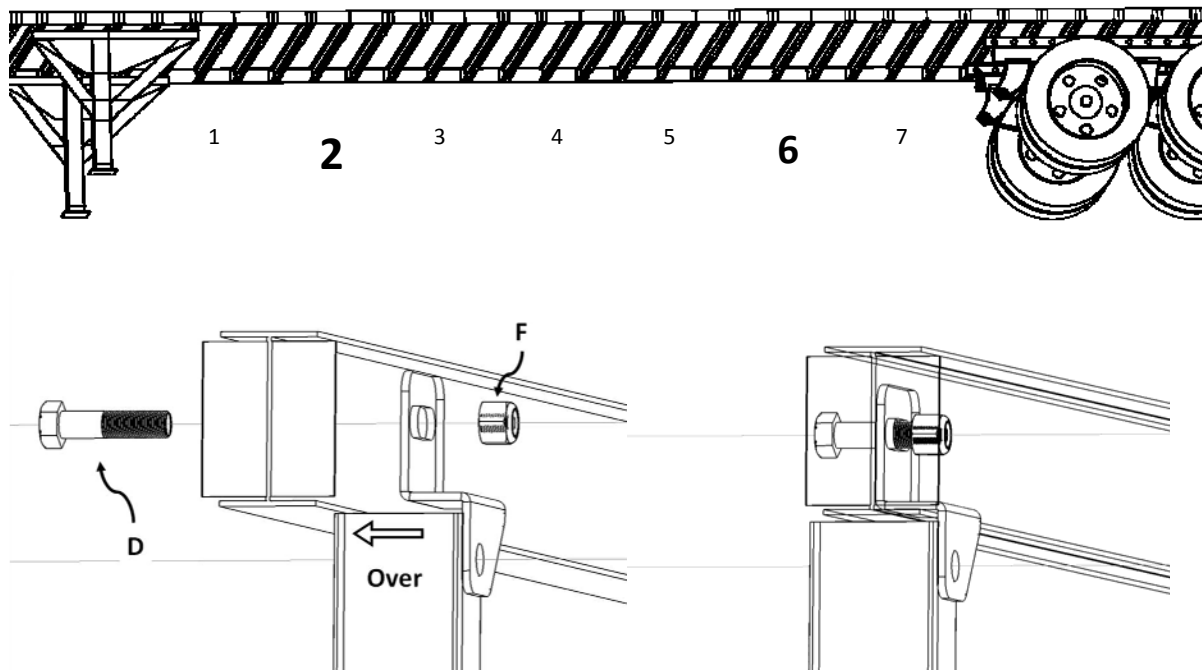

Figure 12 – Secure Side Assemblies in two locations per side before installing Diagonals
DANGER! Before lowering the lift forks use the appropriate bolt (D) and nut (E) and insert (see Fig. 3) through the hole in the webbing on cross members 2 and 6. Thread and tighten the nut onto the bolt to ensure that the sides will not fall while assembly progresses. Use the impact driver to tighten the nut and draw the side brackets flush with the webbing of the cross members as shown on Fig. 12 next page